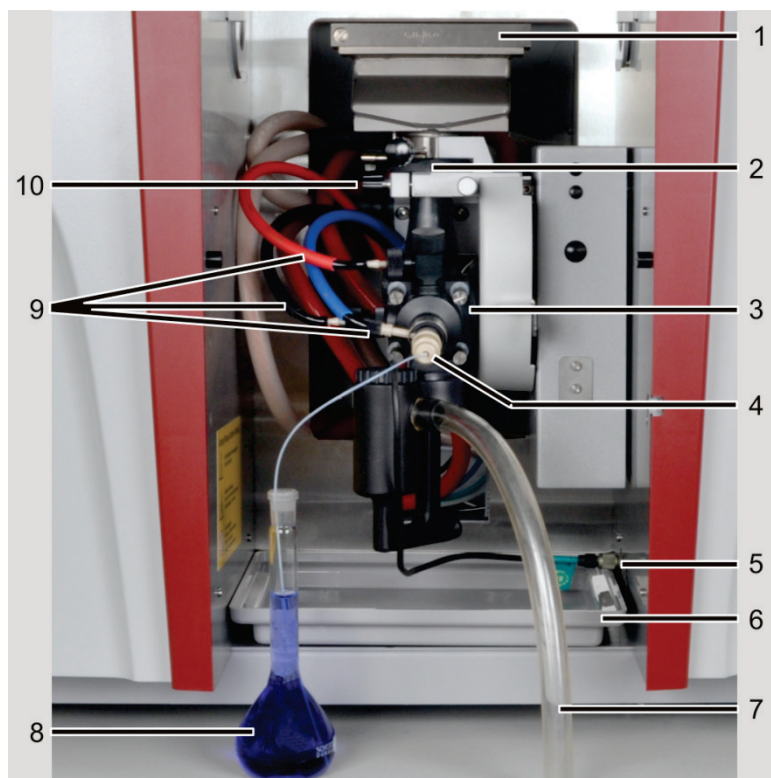

Fig. 50 Flame technique, manual sample introduction
2. Check that the mixing-chamber-nebulizer system properly sits in the retainer of the height adjustment. The plate of the mixing chamber tube must have contact. The white marking on the mixing chamber tube must be positioned above the edge of the retainer (item 2 in Fig. 50).
2. Check that the mixing-chamber-nebulizer system properly sits in the retainer of the height adjustment. The plate of the mixing chamber tube must have contact. The mixing chamber must be aligned to the height adjustment, the marking on the connector must be above the edge of the holding fixture (item 2 in Fig. 50 on page 75).